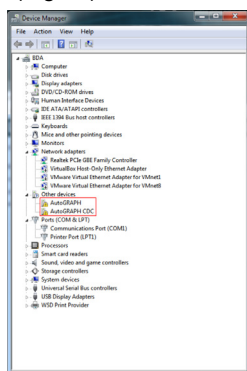

Fig.76. New equipment.
1. Connect the AutoGRAPH-INFO-TFT to PC using the Data-cable. The system will automatically search for new equipment (Fig.76). For proper operation, it is necessary to install drivers for both devices: AutoGRAPH and AutoGRAPH CDC device.